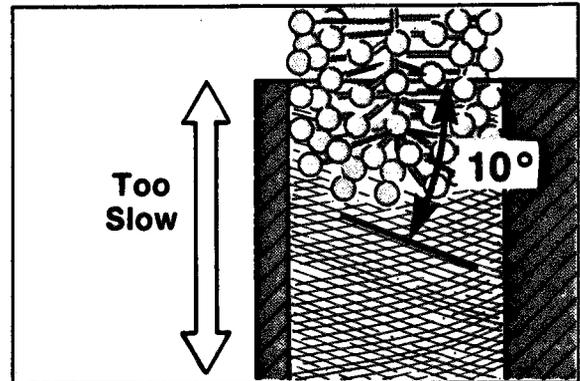

Figure 6-15
6. If drill speed is too fast or vertical stroke is too slow, crosshatch angle lines will show a 10 degree angle (Figure 6-15).